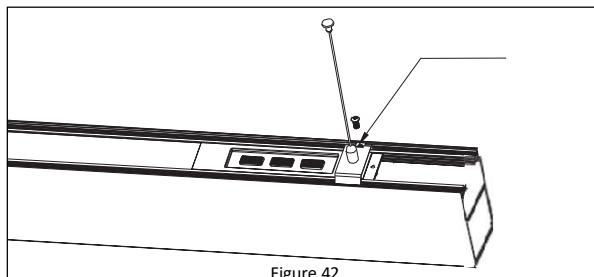

Figure 42
4. Adjust the lifting bracket on the fixture to a suitable position for suspending and linking. . *See Figure 42.*